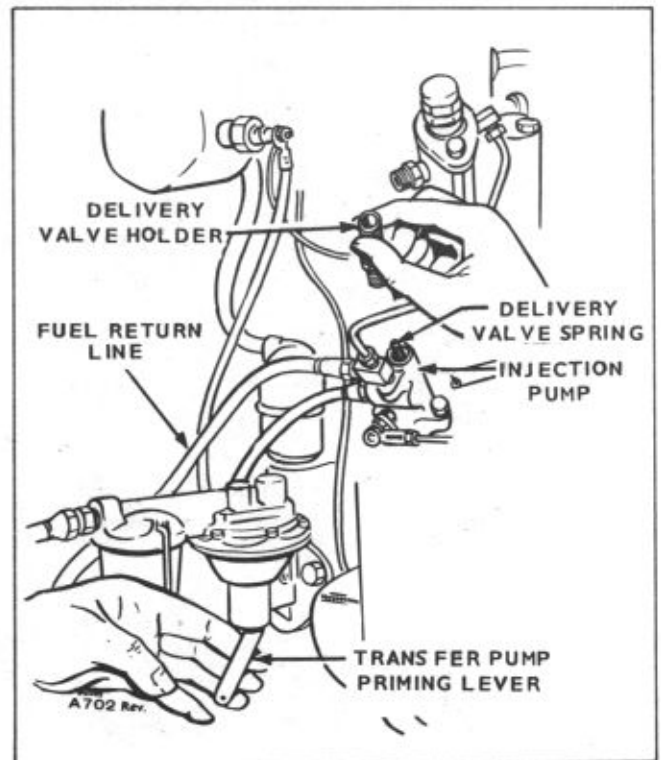

Figure 31. Loosening Delivery Valve Holder
2. Loosen the delivery valve holder to relieve pressure on spring. (Fig. 31).
3. Rotate the flywheel to about 15° before the port closing (PC) point. Blow in the pump inlet and rotate the flywheel slowly clockwise until air stops coming out of the pump outlet. This is the port closing point.